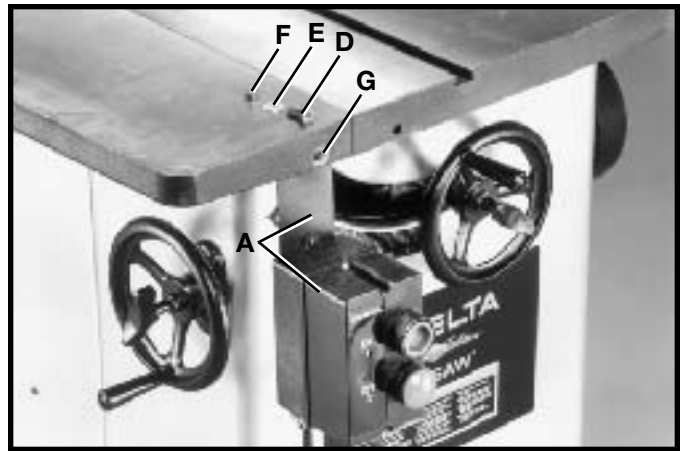

Fig. 7
4. Loosely assemble switch and switch bracket (A) Fig. 7, to the inside front lip of extension table with hex flat head screw (D), flat washer (E), and hex nut (F) through hole (G).